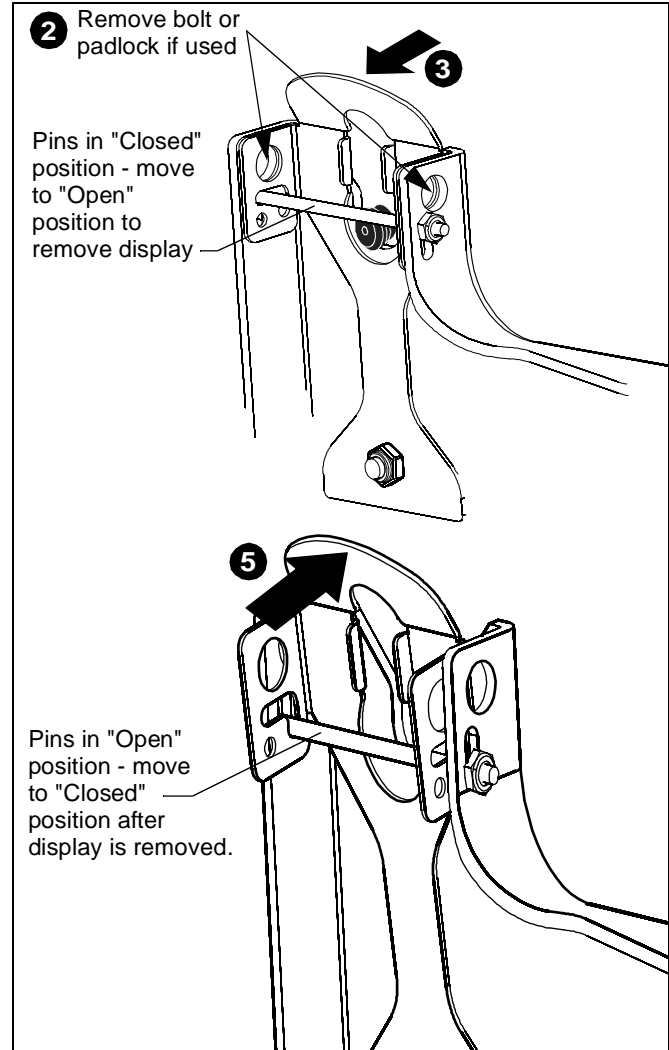

Figure 4
- Remove bolt or padlock from faceplate (if used). (See Figure 4)
- Pull back on flags on upper mounting holes and press pins down into "Open" position. (See Figure 4)
- Lift up on pins and place flags back against faceplate to return it to "Closed" position. (See Figure 4)